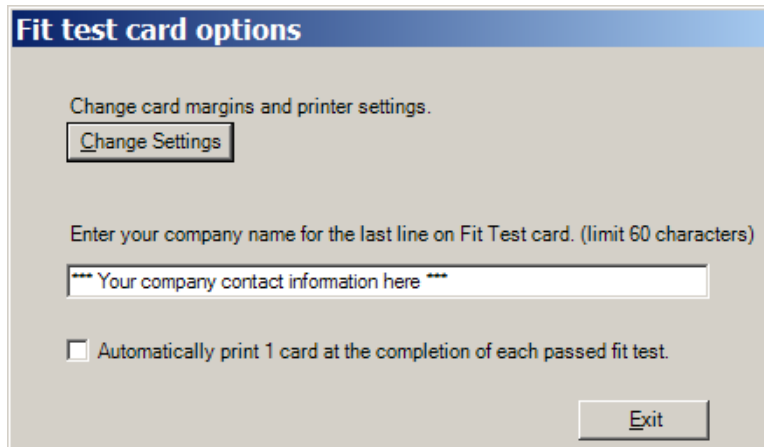

Figure A-2. Fit Test Card Options
2. Click **Fit Test Card Options**. The following dialog appears (Figure A-2).